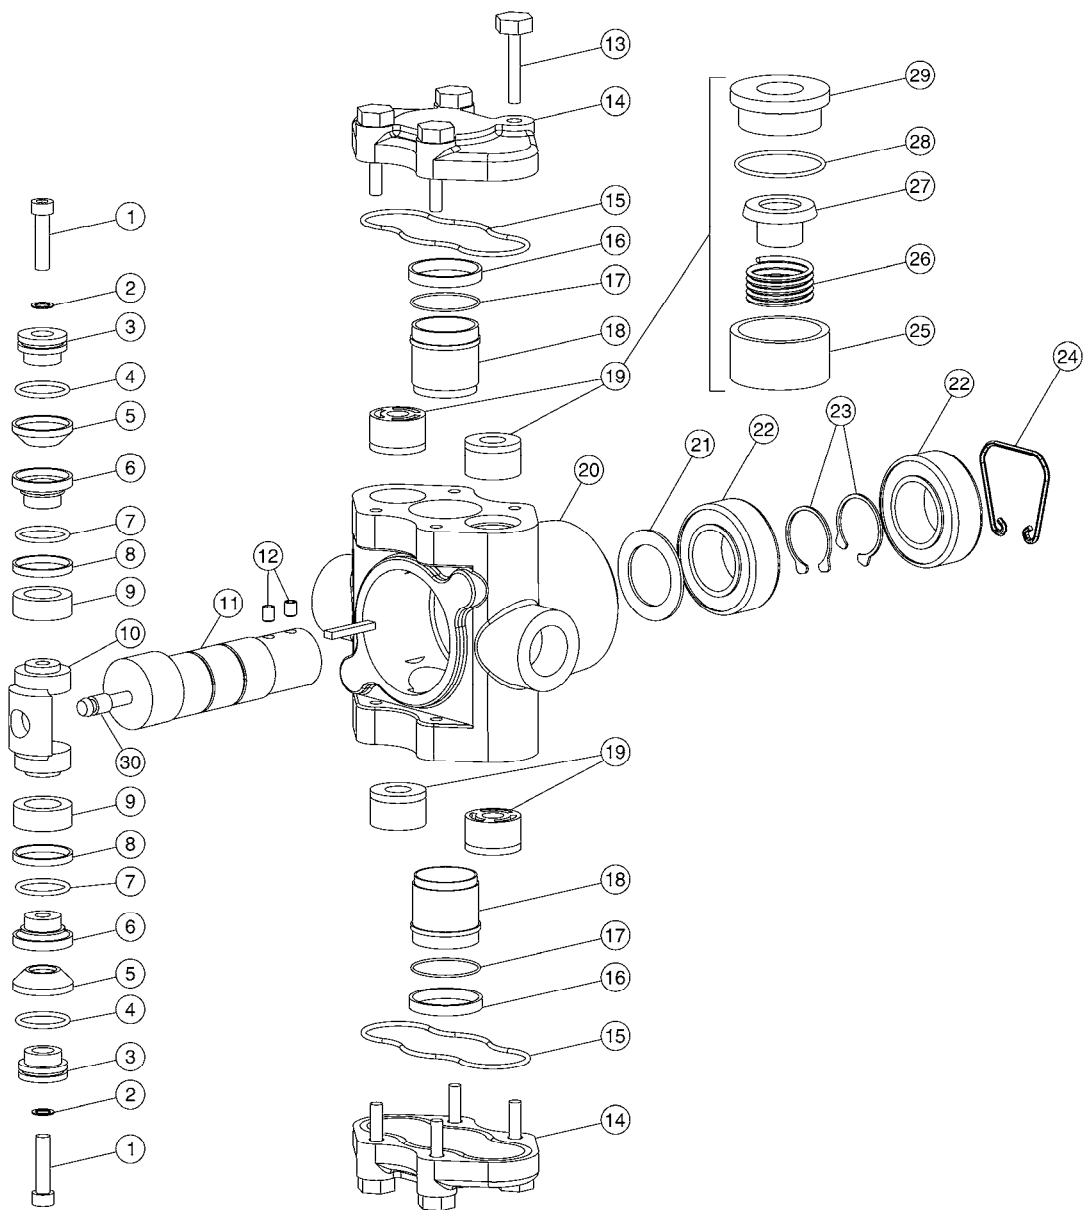

Figure 1-3. Exploded view of the Piston Pump.
- 1. Refer to Figure 1-3 to locate and identify the various components of the Piston Pump.